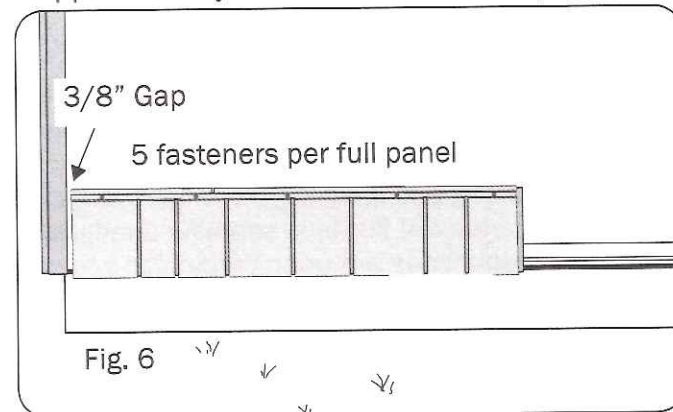

Fig. 6
- Make sure the panel is plumb and continue fastening it placing the fasteners in the center of the slots at 8"-12" intervals (Fig. 6)
- Fasten the panels by placing fasteners in the nailing flange; one in the center of the panel and two on either side, evenly placed. Keep fasteners approximately 2" in from both ends. (Fig. 6).